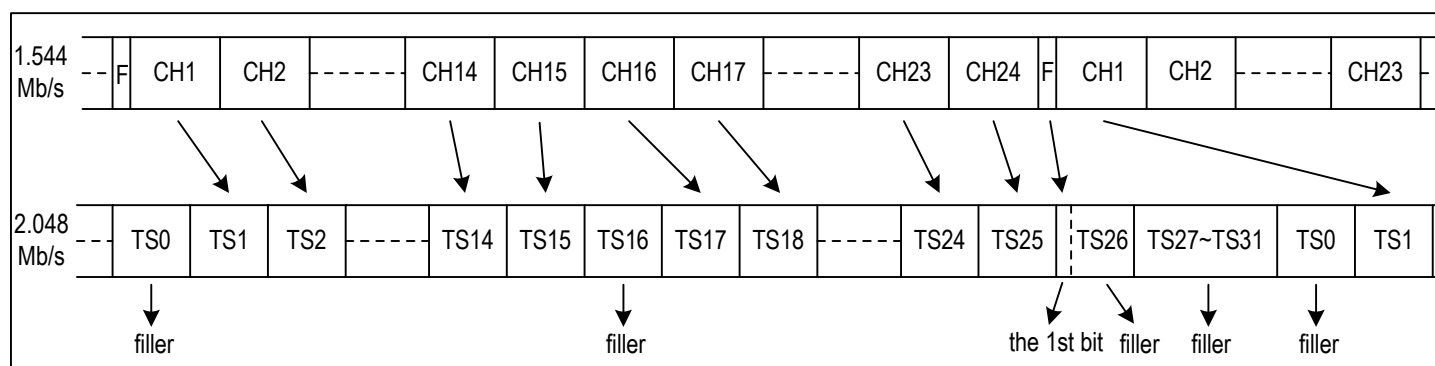

Figure 18. T1/J1 To E1 Format Mapping - G.802 Mode
1. T1/J1 Mode E1 Rate per G.802 (refer to Figure 18): Channel 1 to Channel 15 of Frame N from the device are converted into TS1 to TS15 of Frame N on the system side; Channel 16 to Channel 24 of Frame N from the device are converted into TS17 to TS25 of Frame N on the sys-